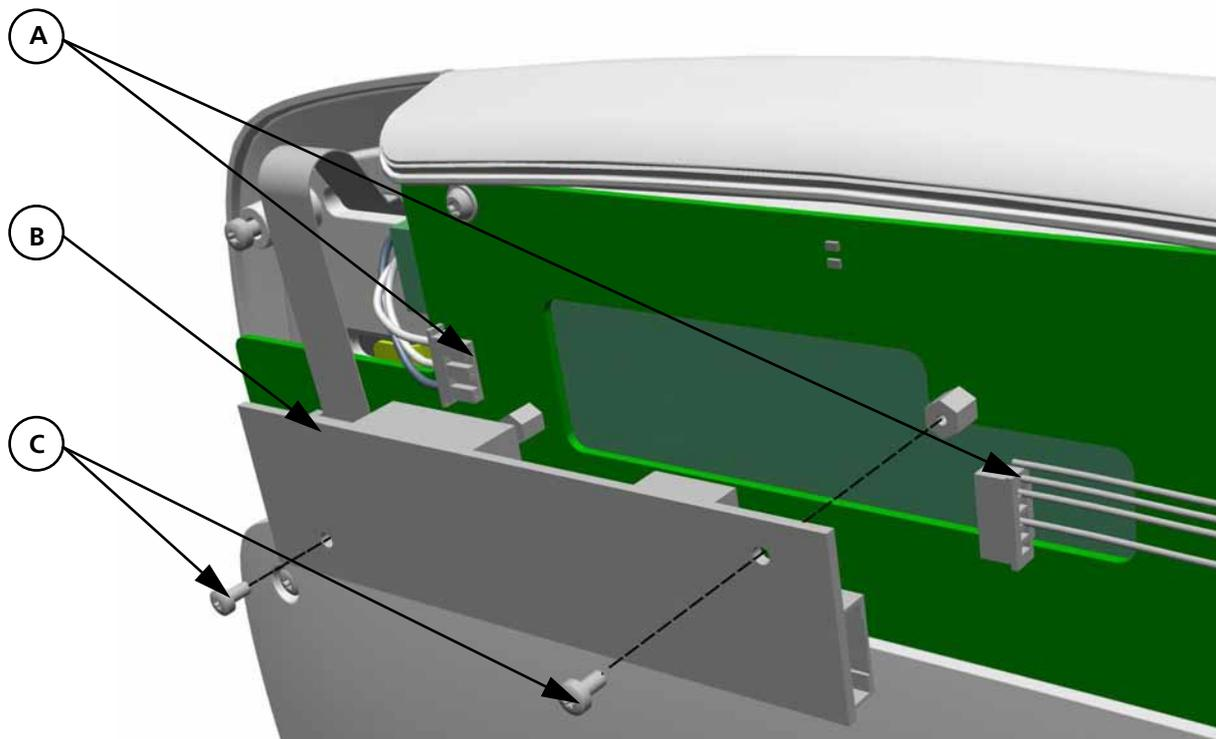

Figure 11-5. Backlight Converter Board Removal
- Figure 11-5, *Backlight Converter Board Removal*, on page 11-10